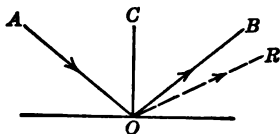

FIG. 78.— Angle of rebound.
88. Rebound. If we throw an elastic object against a hard surface, it rebounds. Fig. 78 shows the angle of rebound and the angle of incidence. The angle AOC is the *angle of incidence*, or the angle that the line along which the object was thrown, makes with the perpendicular to the surface at the point of impact.
The angle BOC is the *angle of reflection*, or the angle that the line of rebound makes with the perpendicular. The two angles are equal, if the object is perfectly elastic. There is one exception to this statement. A ball spinning on its axis as it moves does not rebound as shown in Fig. 78. When an object that is not perfectly elastic, a dead tennis ball, for example, is thrown against a hard surface, the angle of reflection, ROC , is greater than the angle of incidence. Uneven surfaces and balls that have lost some of their elasticity are responsible for many errors in baseball and tennis. A tennis ball that is "cut" to make it rotate is harder to handle.